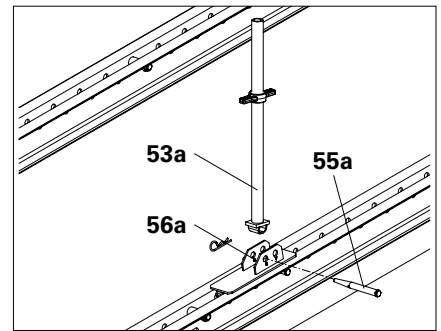

Fig. C2.03b
3. Fit Spindle Head SRU (**53a**) on Connector MP SRU with filler pin (**55a**) and cotter pin (**56a**) as base spindles. (Fig. C2.03b)